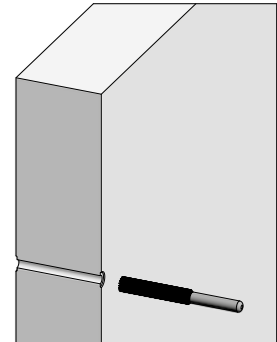

Fig. 79.2
1. Clean the tie hole. It must be free of contamination and grease and have a smooth surface (Fig. 79.2).